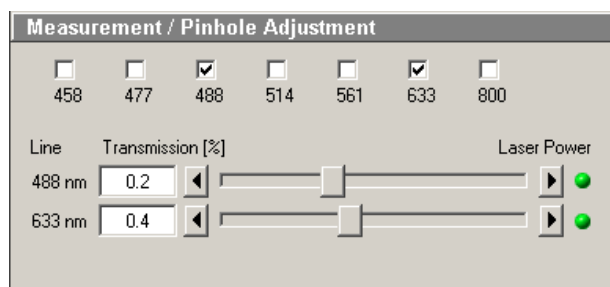

Fig. 4-44 Laser control window for measurements and pinhole adjustment
- Click the **Adjust** button in the **Pinhole** panel of the **Measurement** window. The **Measurement / Pinhole Adjustment** window will appear (Fig. 4-44).